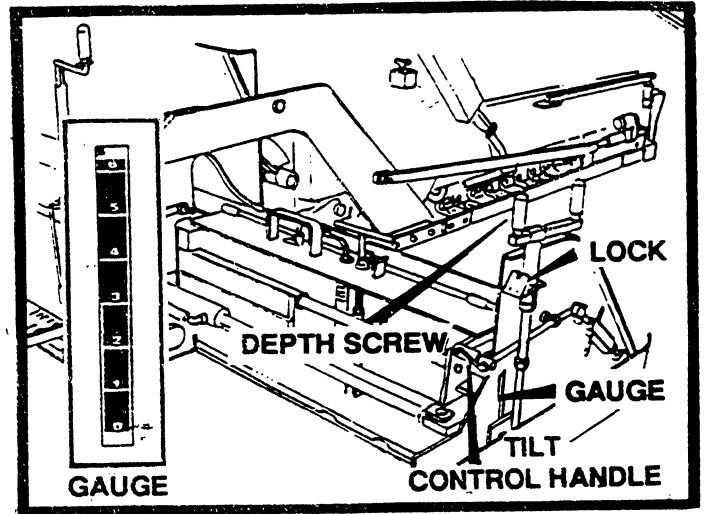

FIGURE 6
1. On first pass unlock depth screws and lower endgate to about 1/4" off desired depth. This should provide a nice square edge. See figure 6.